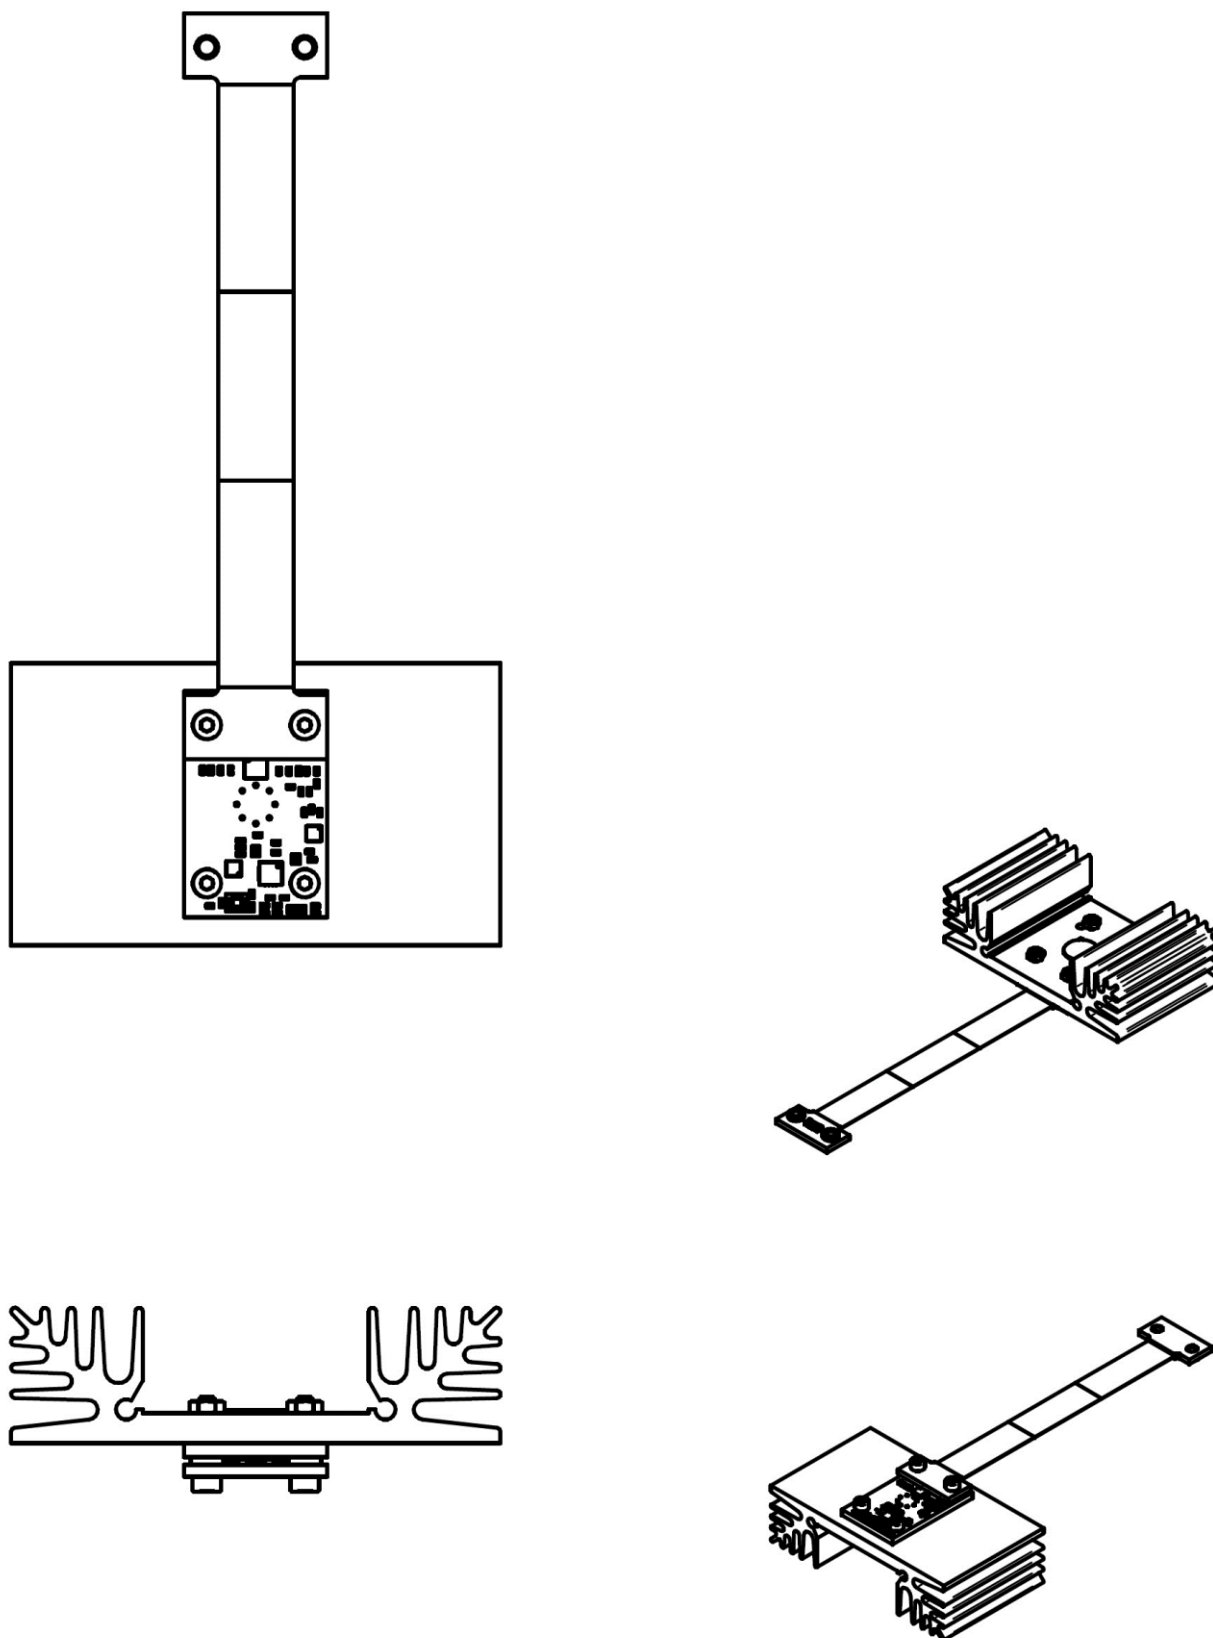

FIGURE 21. Example application of AMIS8140-01 with flexible PCB
The second source of heat is the electronic components on the bottom of the PCB. For applications with high cooling power, it is recommended to leave the bottom side of the module uncovered. An example of such a solution is presented in FIGURE 21.
- Semi-flexible PCB. Receptacle *Amphenol 101R014FB110* has to be placed on the rigid part and the flexible part can be used to connect signals and power supplies to another PCB (FIGURE 21).